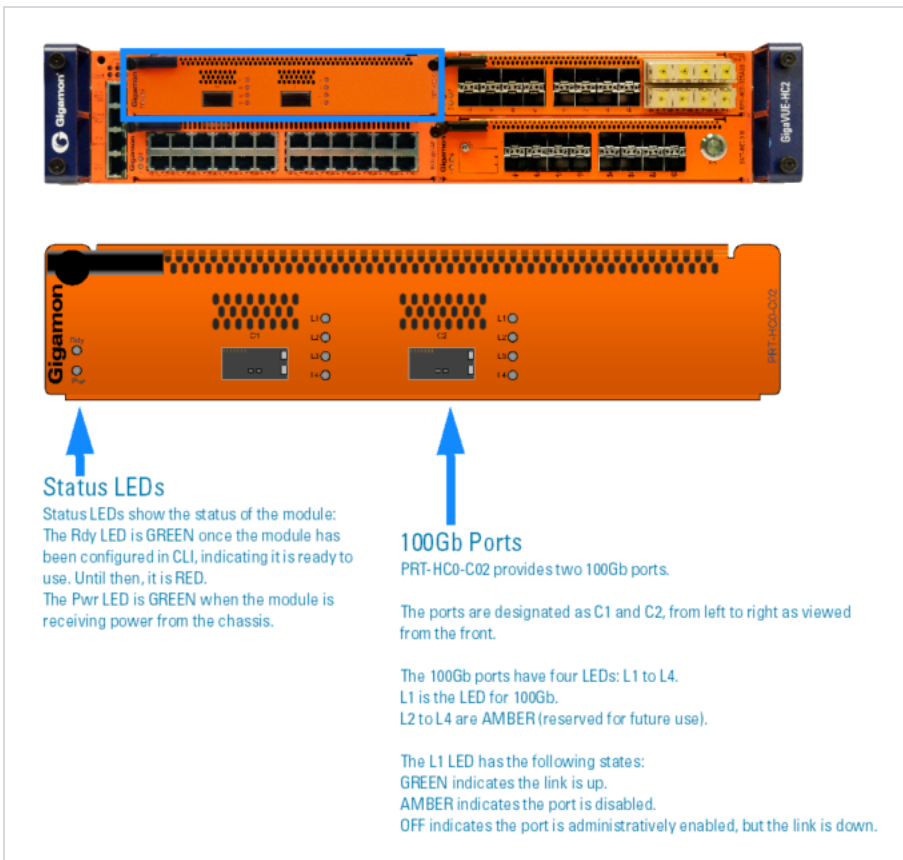

Figure 6: PRT-HC0-C02 Front Module
**NOTE:** The PRT-HC0-C02 can only be used on a GigaVUE-HC2 node equipped with GigaVUE-HC2 Control Card version 2 (HC2 CCv2). Refer to Figure 6: PRT-HC0-C02 Front Module on page 15.